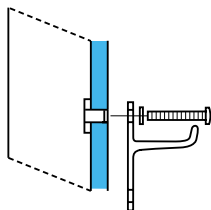

Fig. 8
- 13 Position the Wall Bracket in place and install the four 1/4-20 bolts, including washers, in each of the outside corner holes. Do not tighten completely (refer to Figure 8).